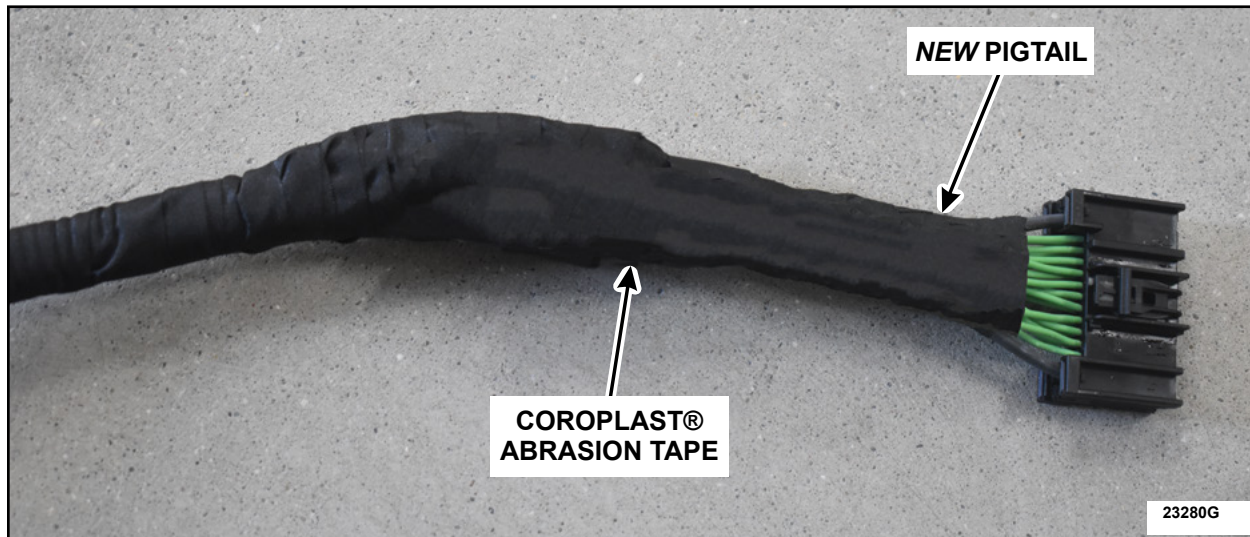

FIGURE 11
26. Install the convolute from the original connector to the *new* pigtail wiring the and wrap using Coroplast® 837 abrasion tape or equivalent. See Figure 11.